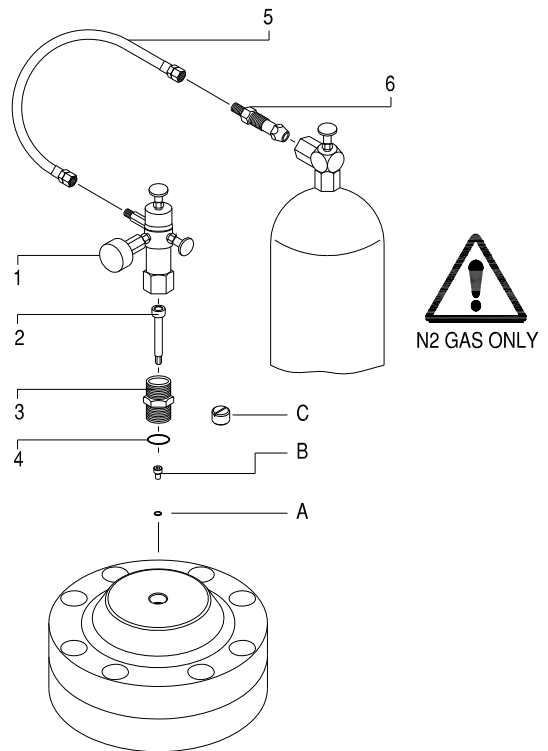

Fig. 12-1 N2 Gas Charge Tool
After membrane replacement, the accumulator must be pre-charged with nitrogen (N2) gas. Accurate charging to the specified pressure is important for proper performance with long-term reliability. This is accomplished with the charging tool (Fig. 12-1) and a commercially available nitrogen bottle.
1. Charge Kit 570071 (Fig. 12-1)
### 12.3 Connect the Charge Valve (Fig. 12-1)